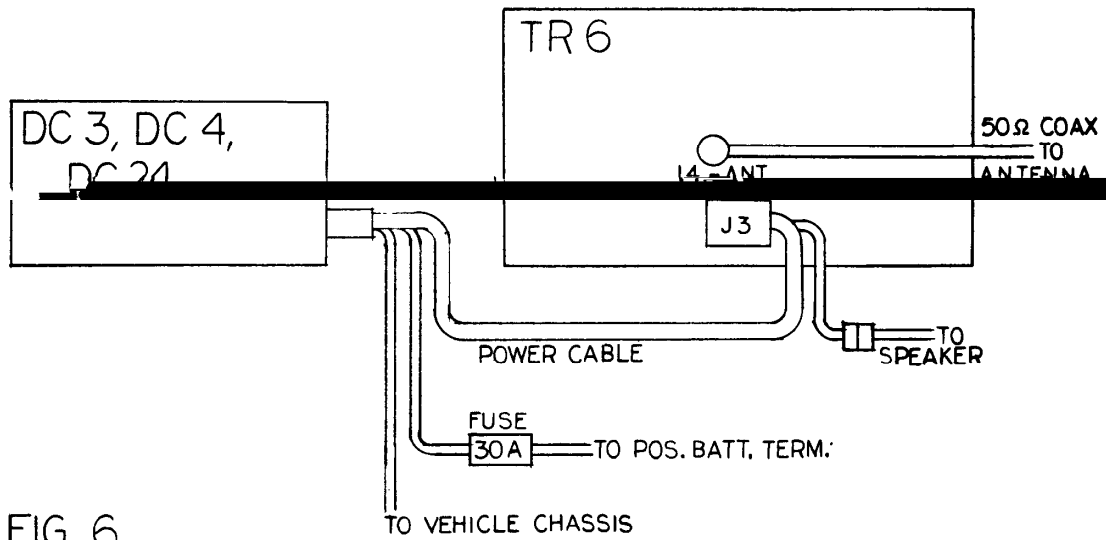

FIG. 6
3. Install a mobile antenna in the manner recommended by the antenna manufacturer and connect the lead from it to the DC-205 connector of the TR-6 (see figure 6). The use of a directional RF wattmeter, Drake W-4 or WV-4, is recommended.
~~In figure 6, if the TR-6 is properly tuned, this check prevents flat~~